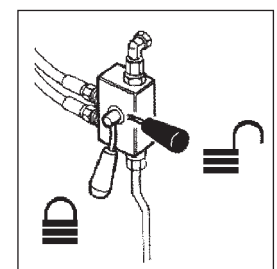

fig. 16
- By using the levers **CD**, the lever **C** and the valve taps (fig. 16), extend the outrigger supports, rotate the outrigger rams putting in a working condition and lower them till the complete stabilisation of the vehicle. (Fig. 19-20)
- make sure that the tap **R1** of the valve of the outrigger ram **S1** is closed (for the closed or opened position see fig. 16);